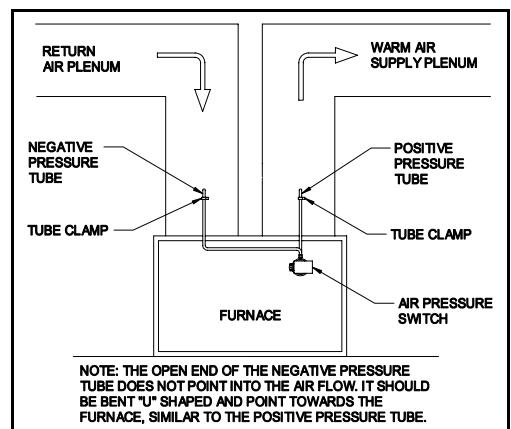

Figure 8
b. The air pressure switch has been installed to sense positive pressure only. Installation of an additional pressure sensing tube on the return plenum side of the furnace will allow the switch to more easily detect blower operation. Follow the same steps (steps 3 through 6) listed above for installation of the original tube, except that the additional tube will be located in the return air plenum. This additional tube is not supplied, however the tube clamp is provided. Either 1/4" copper or 1/4" aluminum tubing, available at your local hardware store, is suitable. Repeat step 12a following installation of this additional tube. (See Figure 8)